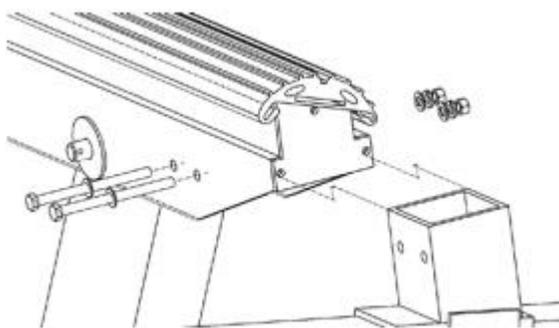

Figure 16
1. Insert the Guide Pole Mounting Bracket into the bottom of the Bunk support as depicted in Figure 16.
3. Attach one (1) 3/8" Flat Washer over two (2) Hex Bolts and insert into the corresponding holes in the Bunk support as depicted in Figure 16.
4. Attach one (1) Lock Washer and one (1) Hex Nut to each of the protruding Hex bolts and fasten with appropriate wrench until secure.